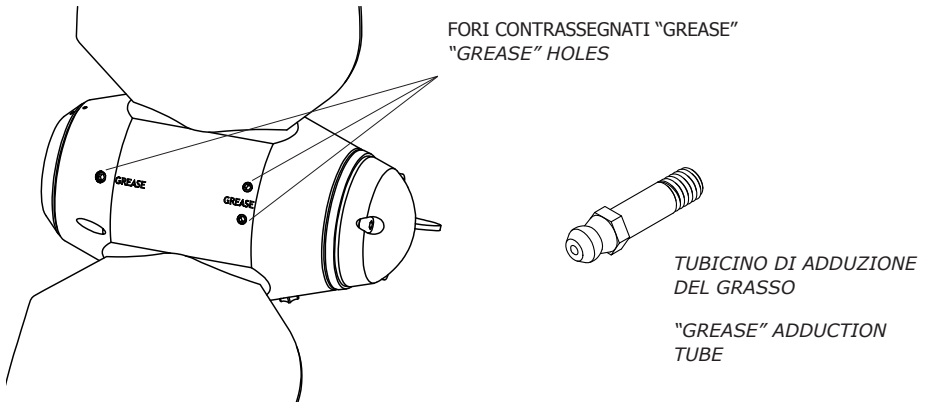

fig. 3
- a. The propeller is delivered filled with fluid grease. On average, once a year it is recommended to top up the propeller body with fluid grease. Proceed as follows, referring to figure 3:
- Fill the propeller body completely with fluid grease through the designated holes marked "grease" (see fig. 3).